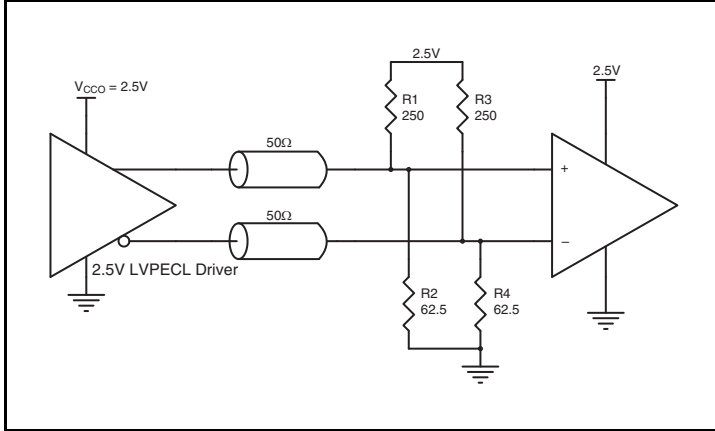
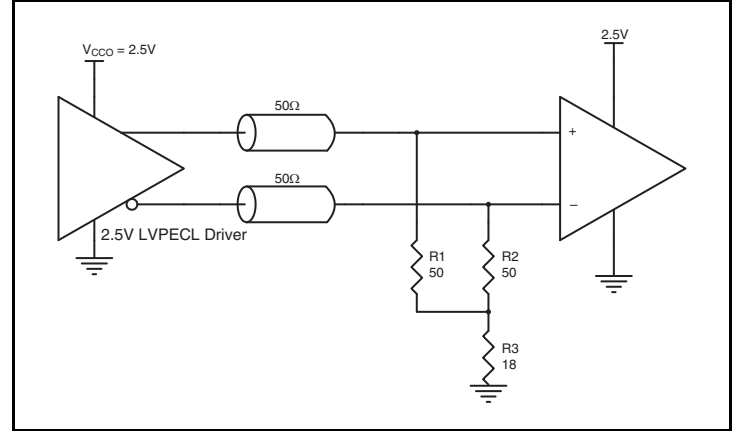
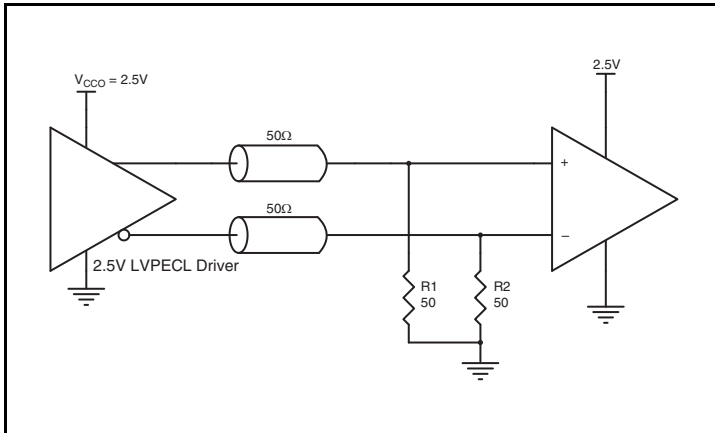

Figure 4A. 2.5V LVPECL Driver Termination Example
Figure 4B. 2.5V LVPECL Driver Termination Example
Figure 4C. 2.5V LVPECL Driver Termination Example
*Figures 4A and 4B* show two different layouts which are recommended only as guidelines. Other suitable clock layouts may exist and it would be recommended that the board designers simulate to guarantee compatibility across all printed circuit and clock component process variations.
Figure 4A and Figure 4B show examples of termination for 2.5V LVPECL driver. These terminations are equivalent to terminating  $50\Omega$  to  $V_C - 2V$ . For  $V_{CCO} = 2.5V$ , the  $V_{CCO} - 2V$  is very close to ground
level. The R3 in Figure 4B can be eliminated and the termination is shown in Figure 4C.